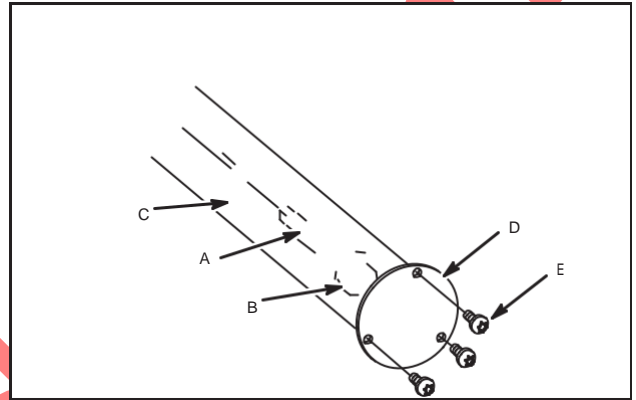

Fig. 7 - Assemble Oil Pump
3. Lubricate oil pump components with engine oil and as-seemble to sump, Fig. 7. Make sure drive shaft is en-gaged in camshaft.